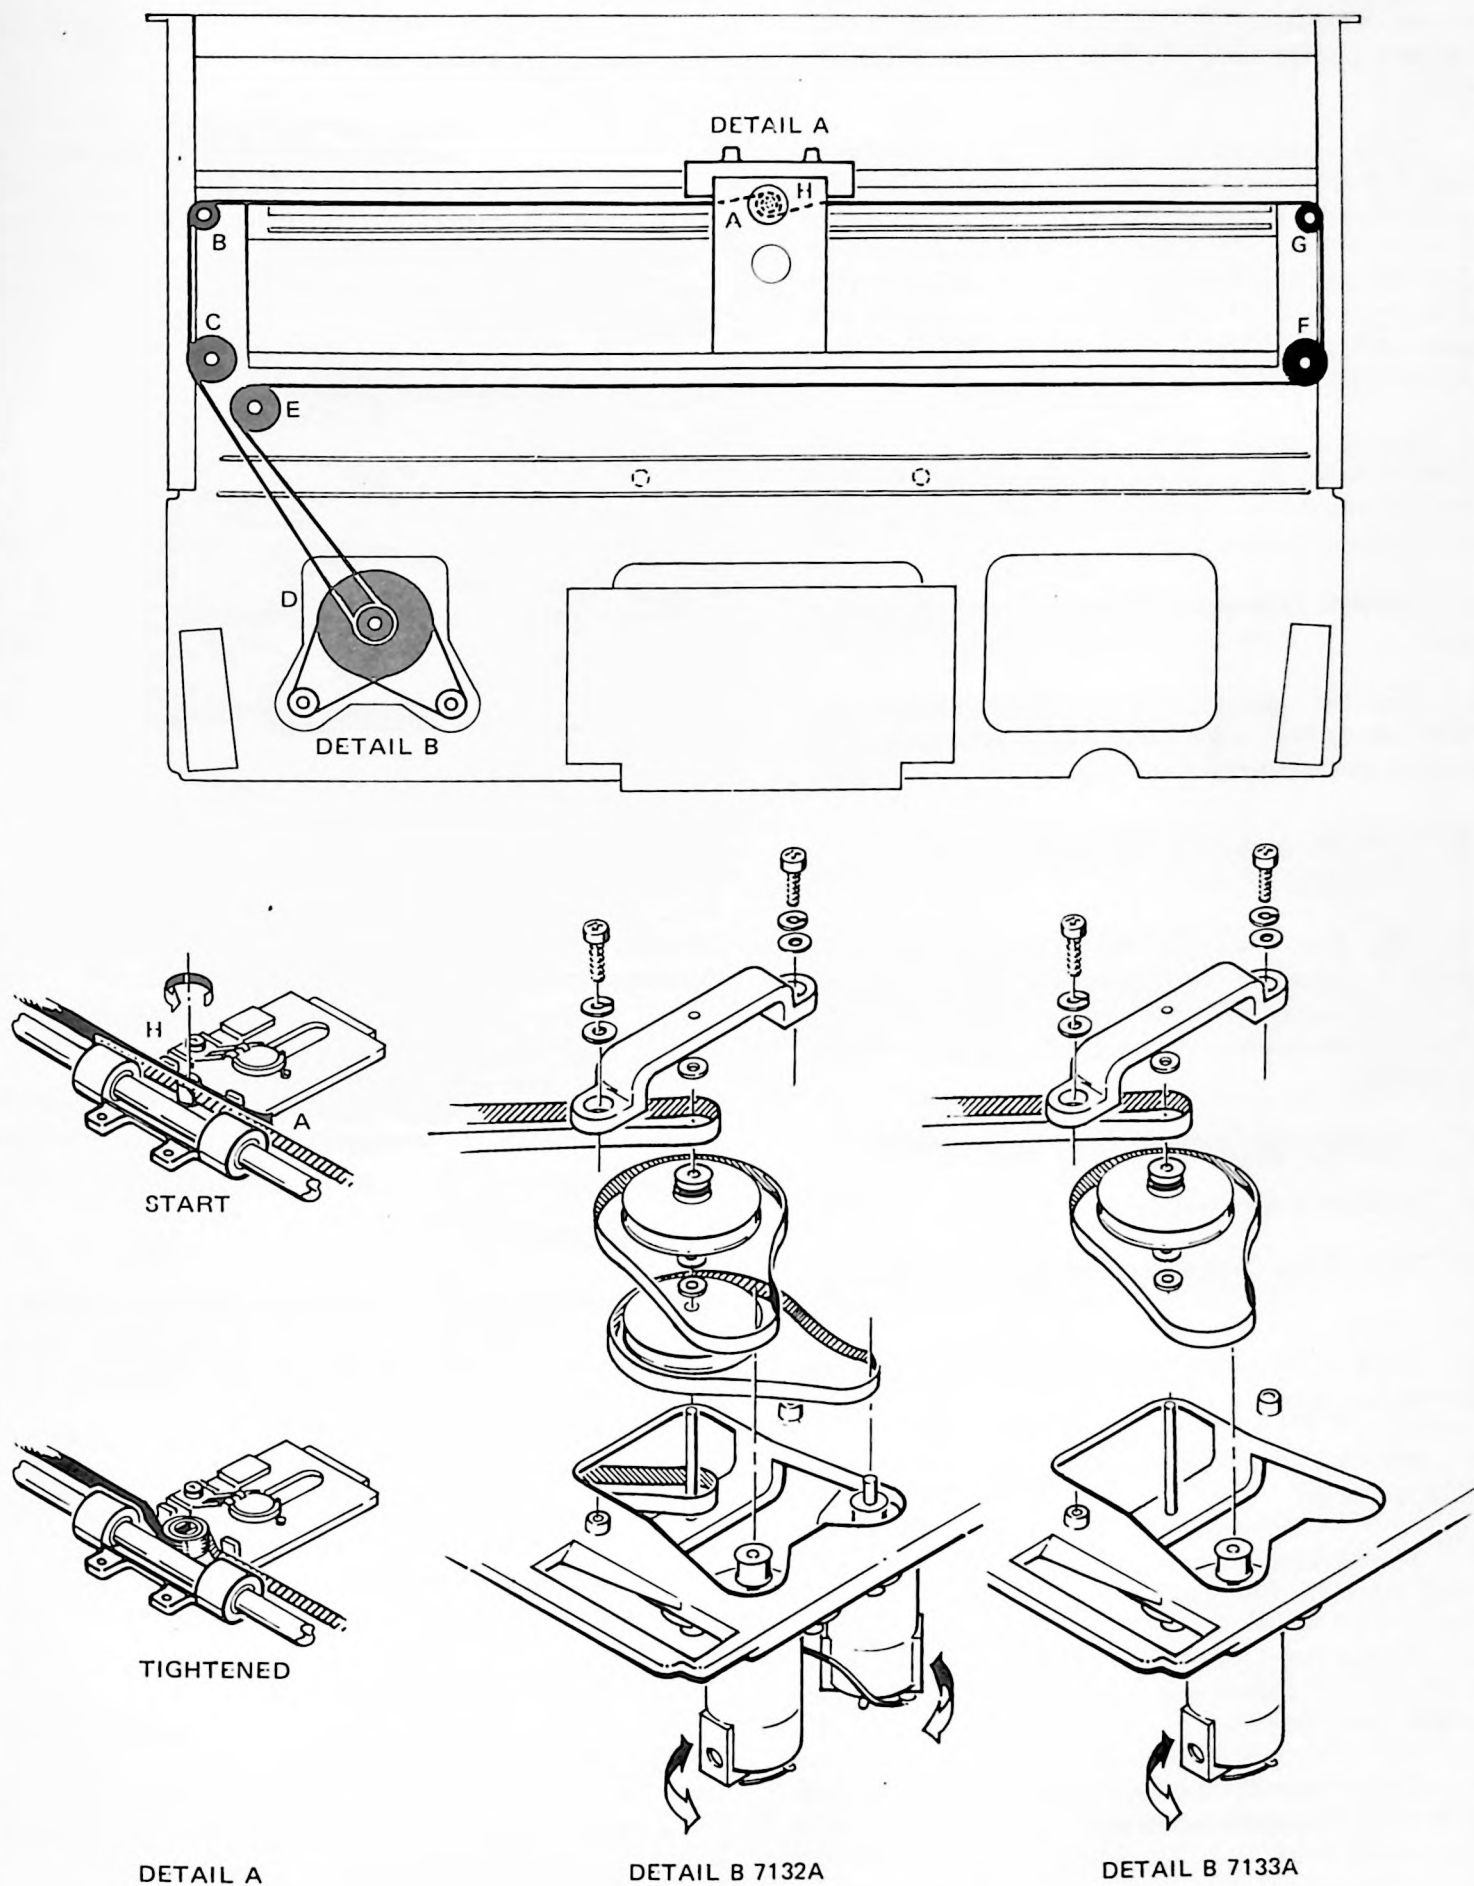

Figure 5-13. Driven Belt Replacement
Note position of washers on pulley when removing belt. Ensure correct order when replacing with new belt. Damage to new belt could occur if washers assembled in incorrect order. See Figure 5-13.
a. Use new belt, Part Number 1500-0348 and slide one end (A) underneath slider block until end barely protrudes at other end of slider block. (See Figure 5-13.)
b. Loop around small pulley (B) at right side of recorder. Position belt around next pulley (C) up to large pulley (D). From large pulley, loop around small pulley (E) adjacent to pulley (C). Then loop around pulley (E) over to pulley in left side of recorder (G) and finally into slider block (H) where it crosses and passes other end of belt. This end should also barely protrude at end of slider block, see Figure 5-13.